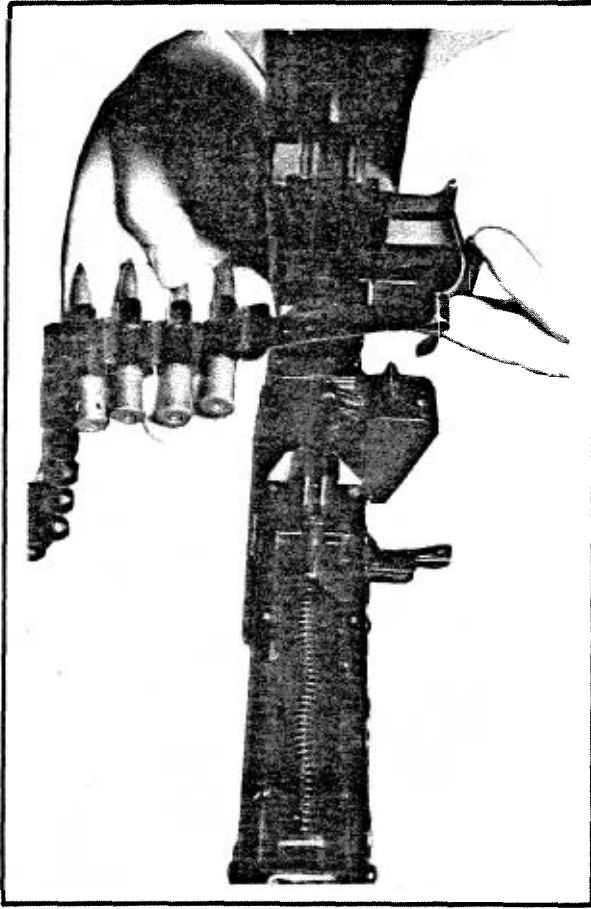

FIG. 3-84. INSERTING BELT
1. Open receiver and place belt into feed chamber, with first round in the extractor catches. Pull belt backwards until it stops (Figs. 3-84, 3-85).